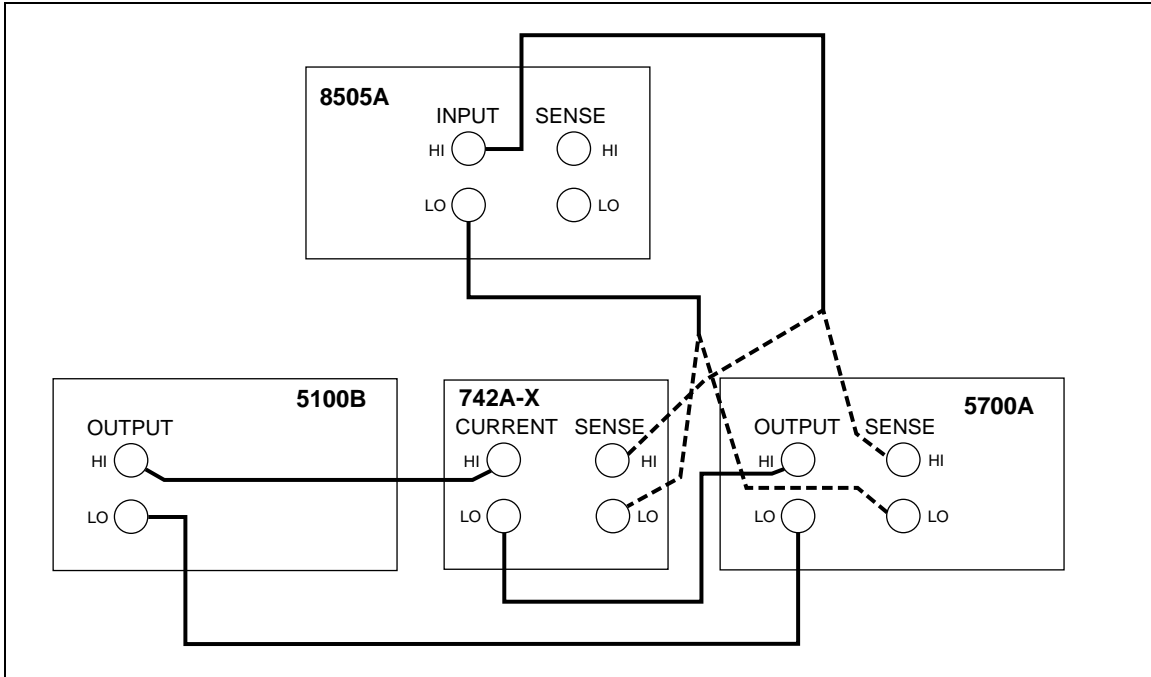

Figure 3-5. 1 Ohm and 10 Ohm Resistor Verification
1. Connect the equipment as shown in Figure 3-5.